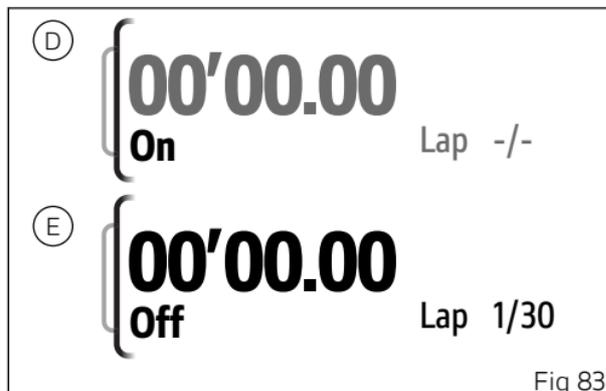

Fig 83
- If the function is disabled, "On" is shown with the stopwatch (D, Fig 83); press ENTER button (3) to enable the function.
- If the function is enabled, "Off" is shown with the stopwatch and indication of the available laps (E, Fig 83); press ENTER button (3) to disable the function.